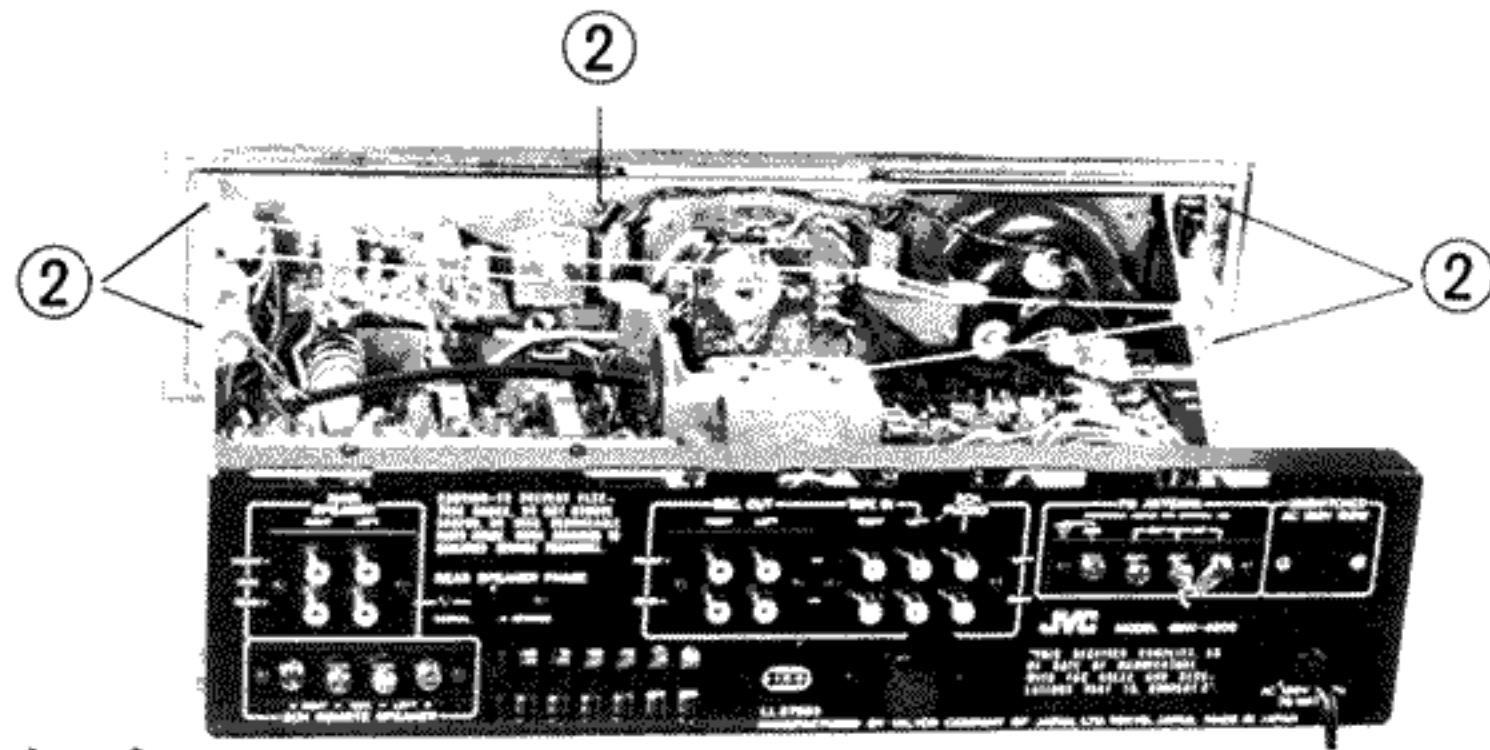

Fig. 3
- 2. Remove five screws Fig. 3, ②.